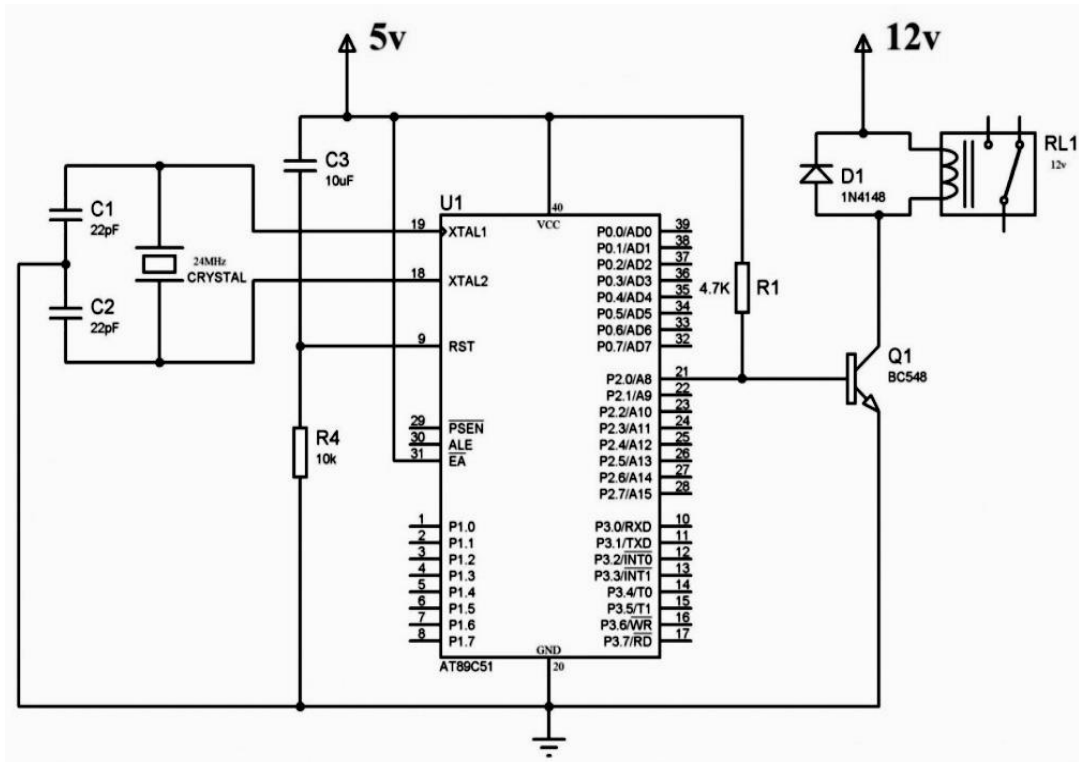

Fig 27.2 8051 connection to Relay
8. Interface relay to the microcontroller as per circuit diagram shown in Fig 27.2